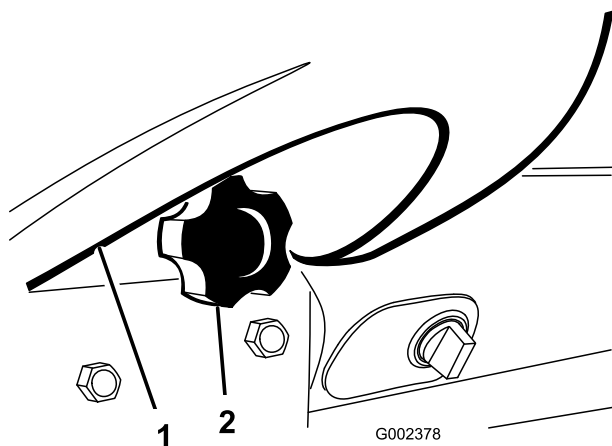

Figure 29
2. Loosen knob securing cup holder to dash (Figure 29). Remove cup holder from dash.